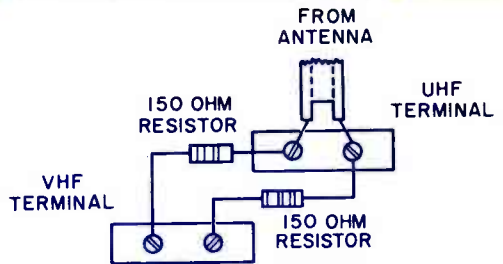

FIG. 3. Two 150 ohm resistors used to split UHF/VHF signals.
1. Use two 150 ohm resistors as shown in Fig. 3. The disadvantage of this method is that the resistors attenuate the signal and there is no frequency discrimination. Therefore, this is not recommended in weak signal areas.